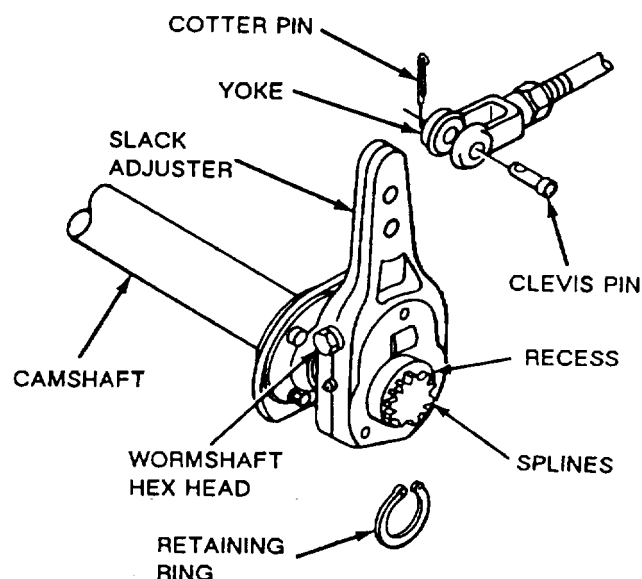

Figure 4-50. Removing and Installing Slack Adjuster
- (1) Remove cotter pin and clevis pin securing yoke to slack adjuster, fig. 4-50.
- (2) Remove retaining ring from end of camshaft.
- (3) Using a brass hammer, tap on slack adjuster lightly until it comes off the camshaft.